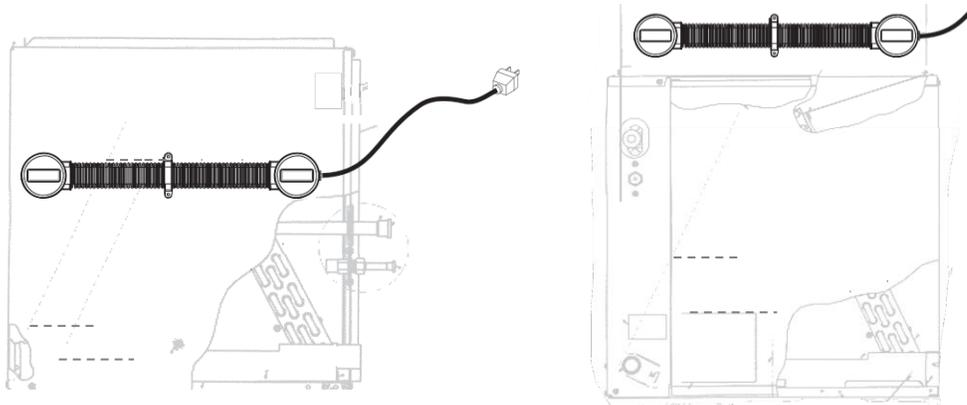

Figure 2. Steril-Home Dual Kit Installed on an A-Coil in Ideal Positioning (Left) Acceptable Positioning (Right)
- Emitters may be installed anywhere to bathe an air stream or surfaces with germicidal UVC energy. It is best that they be located at known growth areas such as downstream of the cooling coil and over the drain pan. (See Illustrations, Figure 2 & 3) They may also be placed in a return air duct, supply duct, mixed air plenum, point of delivery or any combination thereof to suit the application. Make sure that the duct or plenum depth is at least of enough depth to accommodate the UVC Emitter.
1. The outer base housing should position the UVC Emitter about two inches from the vertical sidewall and two to three inches from the face of the coil and at a vertical location slightly above the mid-point of the coil height (see Illustrations, Figure 2).